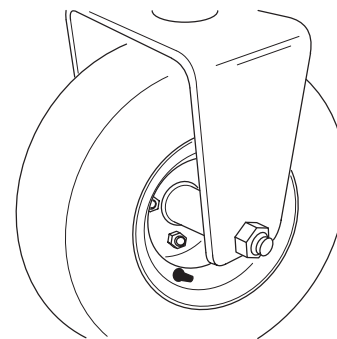

Figure 3
4. Position the bend of the bolt head under the bottom edge of the castor fork. Install and tighten the locknut to secure the wheel to the castor fork (Fig. 3).